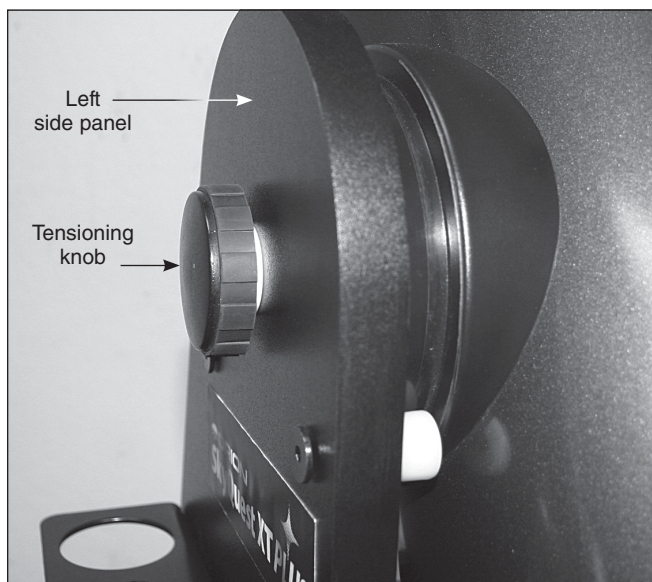

Figure 10. The tensioning knob on the left side panel lets you set and adjust the amount of friction for the altitude motion of the telescope.
3. On the other altitude axis coupling knob place a metal washer on the bolt, then thread on the white plastic washer all the way (**Figure 9**), until it is captive on the smooth portion of the shaft nearest the hand knob. Now insert the bolt through the bushing on the LEFT side panel and use the knob to thread it into the left side bearing on the optical tube assembly. This coupling knob is referred to as the "tensioning knob" (**Figure 10**).
The SkyQuest XT PLUS tube is held on the Dobsonian base with two altitude axis coupling knobs (**Figure 10**). The one on the right side acts simply as a retaining knob, while the one on the left side is the "tensioning" knob. Turning this knob clockwise pulls the telescope's left side bearing into the left side panel, increasing the friction between the side bearing's fiber ring and the melamine surface of the side panel. The tighter the knob is turned, the greater the friction and the stiffer the tube will become to move up and down. Ideally you'll want to set the tension such that the tube moves relatively freely, so that you can "track" objects smoothly by moving it in small increments while viewing through the eyepiece.